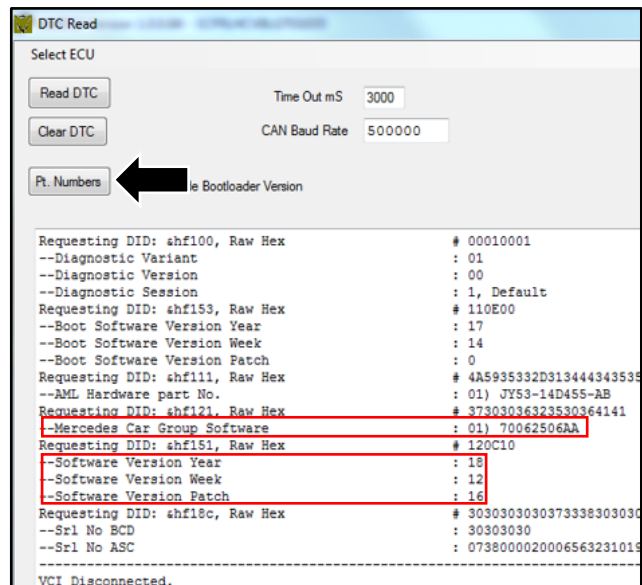

Figure 3
- If the software versions are not the same as shown in Figure 3 do steps 8 thru 12.
- If the software versions are the same as shown in Figure 3 no more work is necessary, go to step 13.